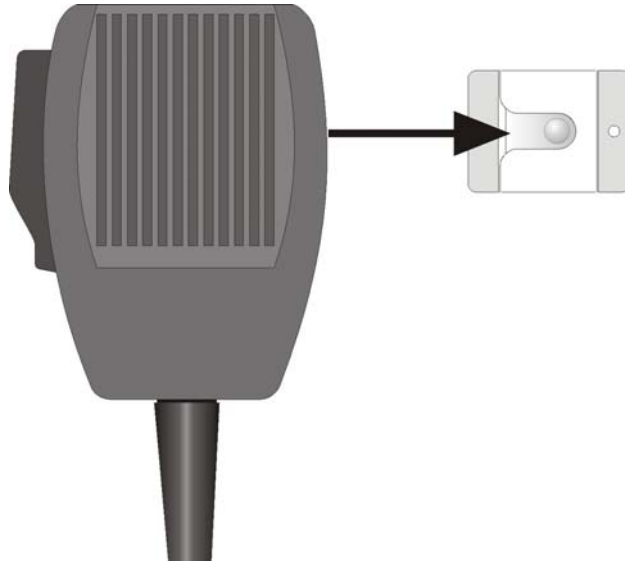

Figure 3-9 Sliding Microphone into Microphone Clip
1. Clip the microphone into the microphone clip. See Figure 3-9.